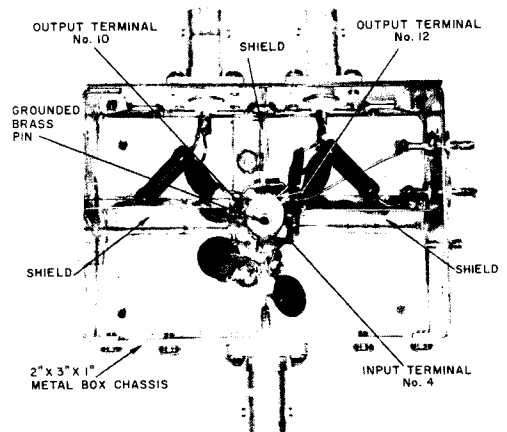

Fig. 6 - Test Circuit Layout
Stable high-frequency operation requires that proper high-frequency construction techniques be followed. The photograph of Fig.6 illustrates the precautions taken in the construction of the test circuit of Fig.3.
1. Use sockets only when necessary. Sockets, when used, must provide shielding within the pin circle. The socket shown in the chassis of Fig.6 is a Barnes MG-1201, or equivalent, modified by drilling a $1/8$ " hole in the center and inserting a grounded brass pin.